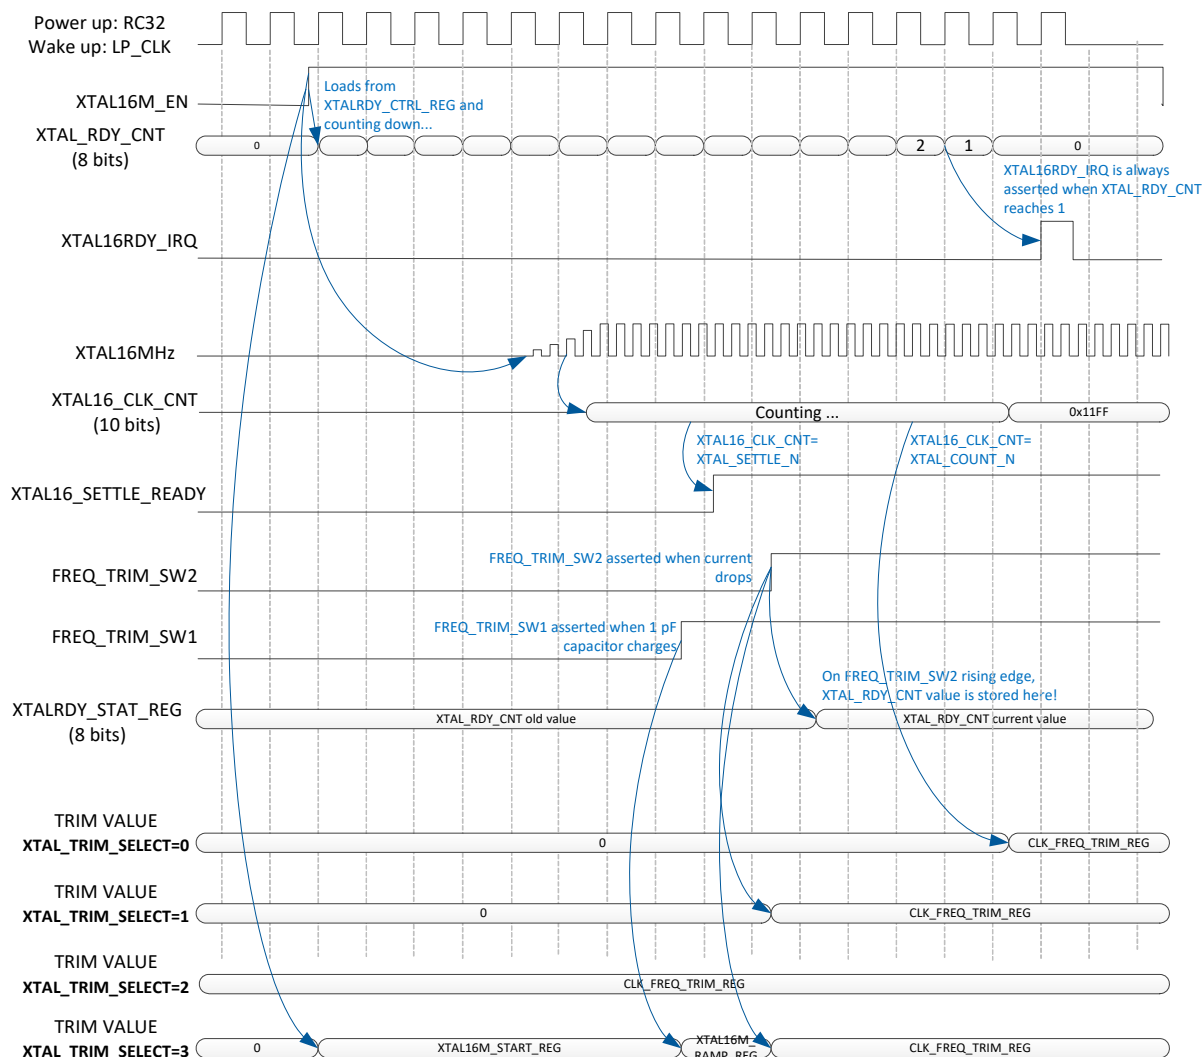

Figure 36: Automated mechanism for XTAL16M trim and settling
and signalling that the oscillator is settled is described in Figure 36:
4. Progressive Mode: respective trim values are applied in stages, namely at the enabling of the XTAL oscillator, next when an internal capacitor is charged and finally when the current drops. The different trim values are stored in different registers as illustrated in Figure 36.